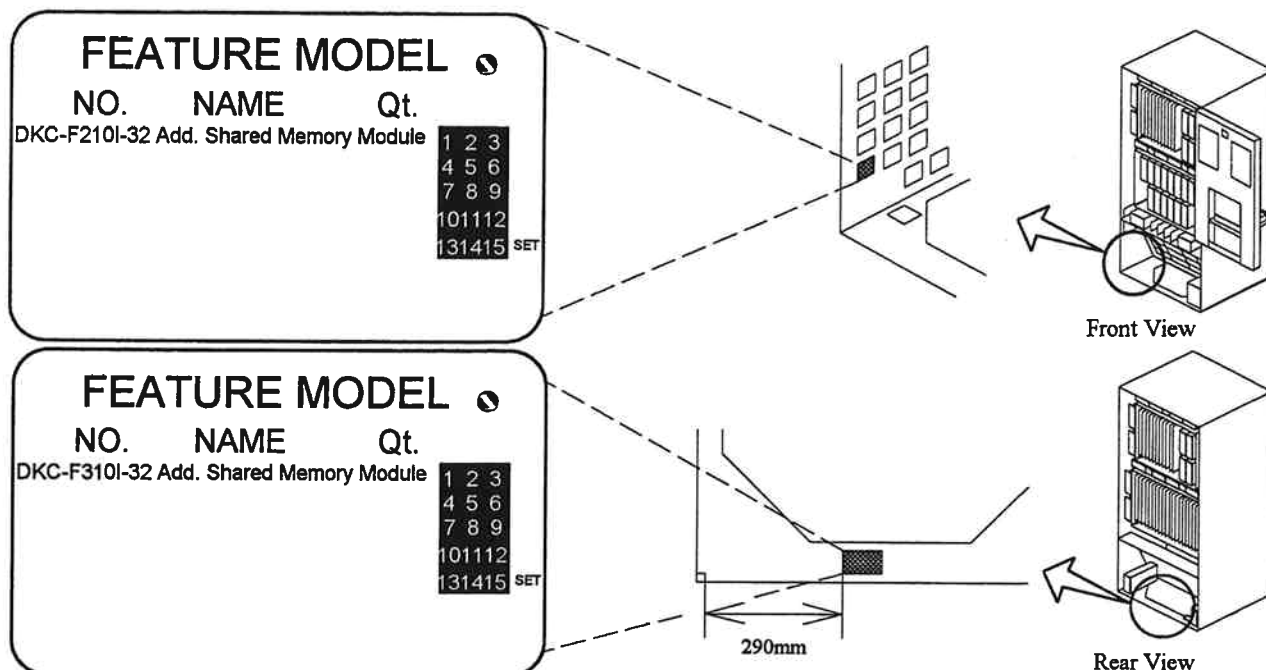

Fig. 3.4.1.3.2-15 Location of the Nameplate
- a. Refer to Fig. 3.4.1.3.2-15 and Table 3.4.1.3.2-12 to paint out unnecessary numbers and wipe off a necessary number painted previously so that the "Qt." marking for the corresponding DKC-F210I-32/DKC-F310I-32 can be seen.